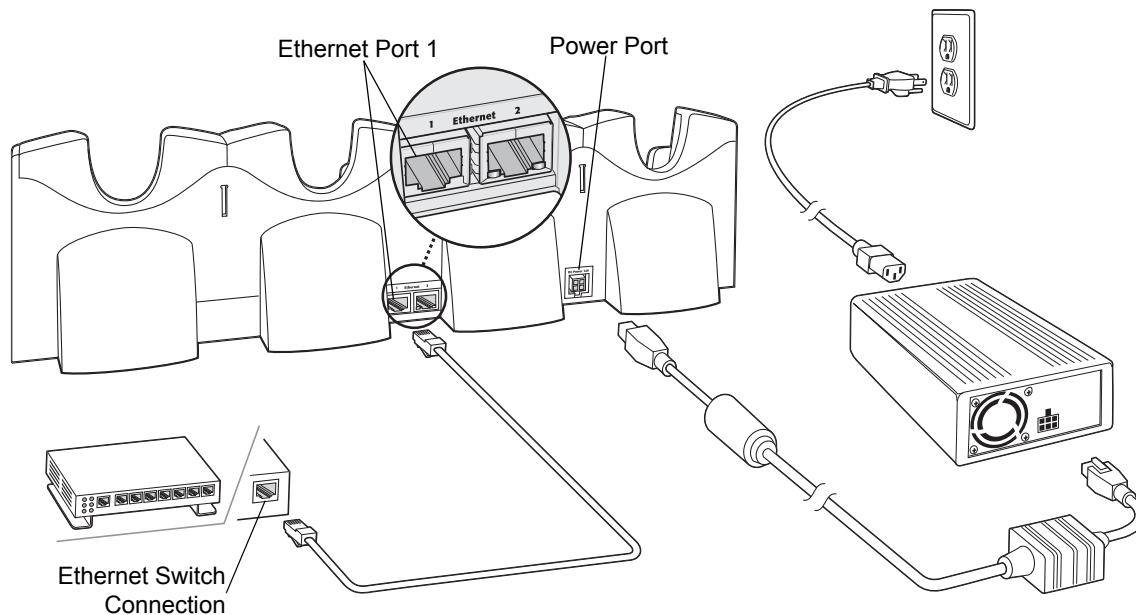

Figure 2-5 Four Slot Ethernet Cradle Connection
1. Connect the first Ethernet cradle to power and to the Ethernet Switch as shown on Figure 2-5 on page 2-8.